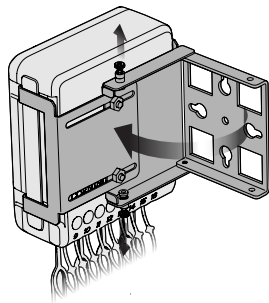

Figure 13
**Step 2:** Run cable strap/band through the square slots of the bracket (Figure 13).